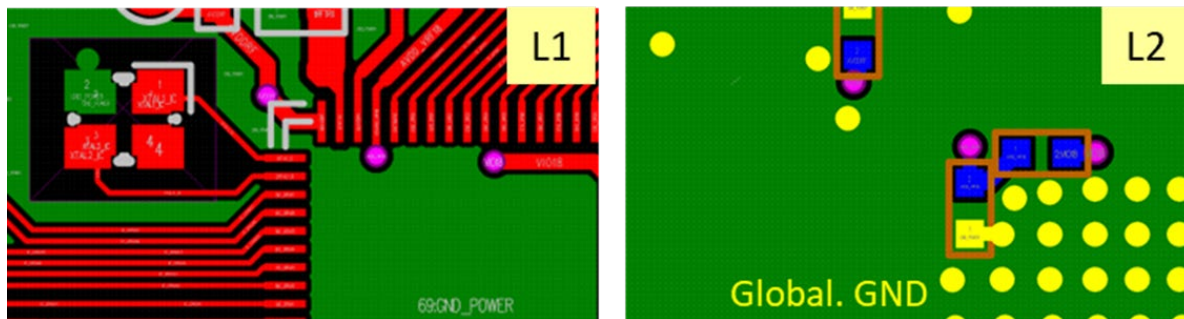

Figure 6. The 32 MHz Crystal on the AB1625 / AB1623 / AB1620 EVK Daughterboard
- The crystal and its trace directly refer to the global ground. Refer to Figure 6 and keep out L1 ground.